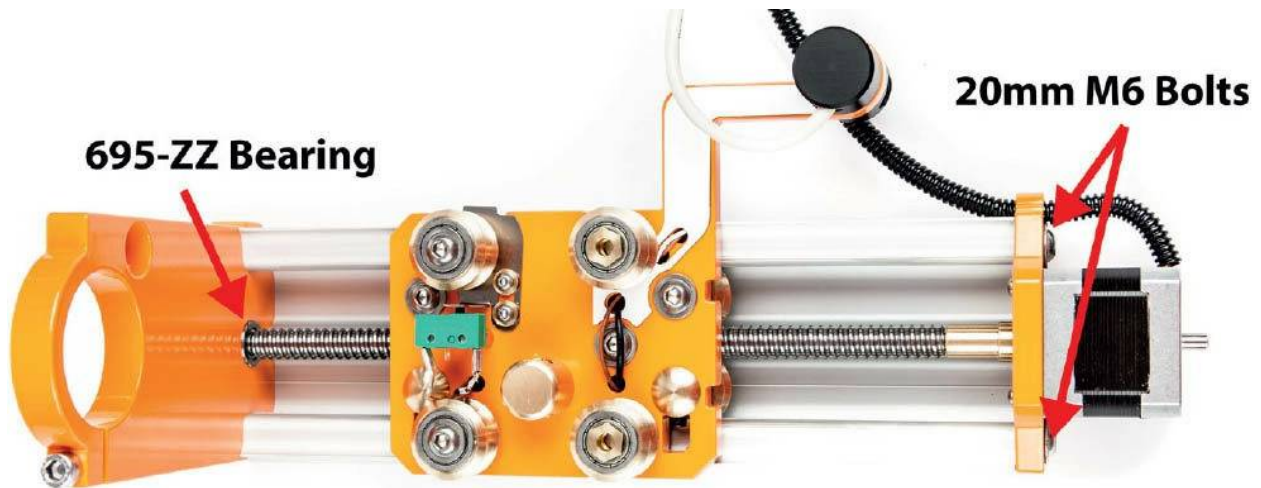

Fig. 2.28 *The finished Z axis assembly*
- 12.** Insert the remaining bearing into the lead screw motor holder, as shown in figure 2.28.